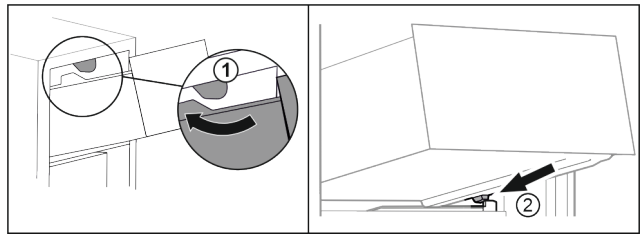

Fig. 97
- ▶ Guide drawer around the upper stoppers. Fig. 97 (1)
- ▶ Place drawer at an angle behind the lower stoppers onto moulded rib. Fig. 97 (2)